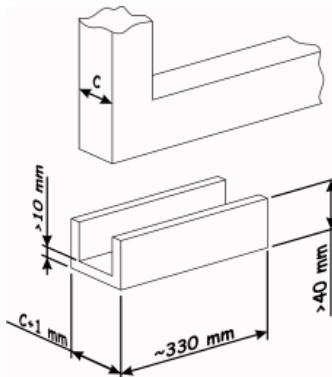

Fig. 9
• use a "U" profile with dimensions indicated in Fig. 9;